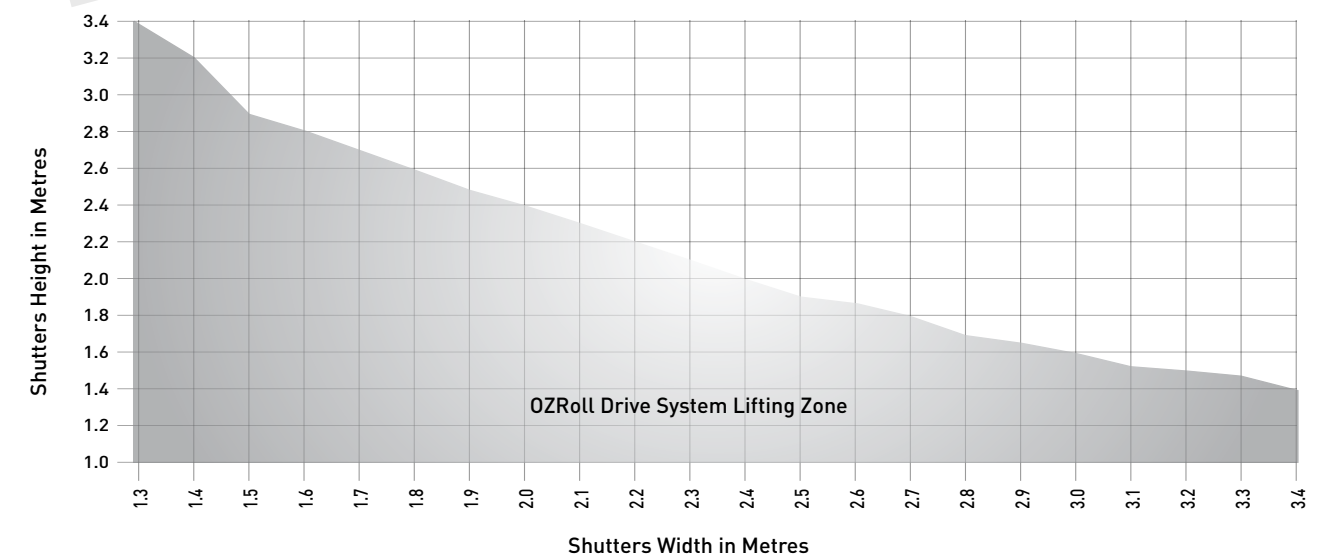

Figure 6.0
**Note:** Ensure that the shutter is within the lifting zone of the ODS Mech 10. (Refer to the graph shown in Figure 6.0)